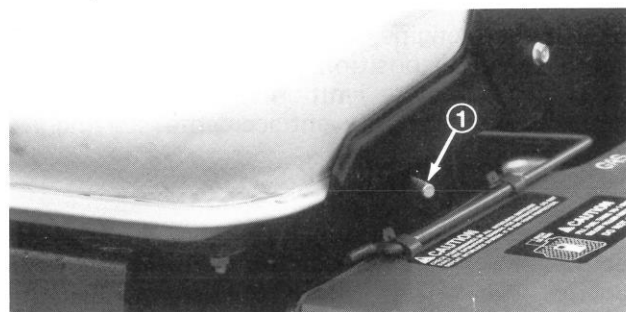

Figure 22
**Seat Adjusting Levers** (Fig. 22) — To adjust standard seat, push lever backward and slide seat to the desired position. Release lever to lock seat in place.